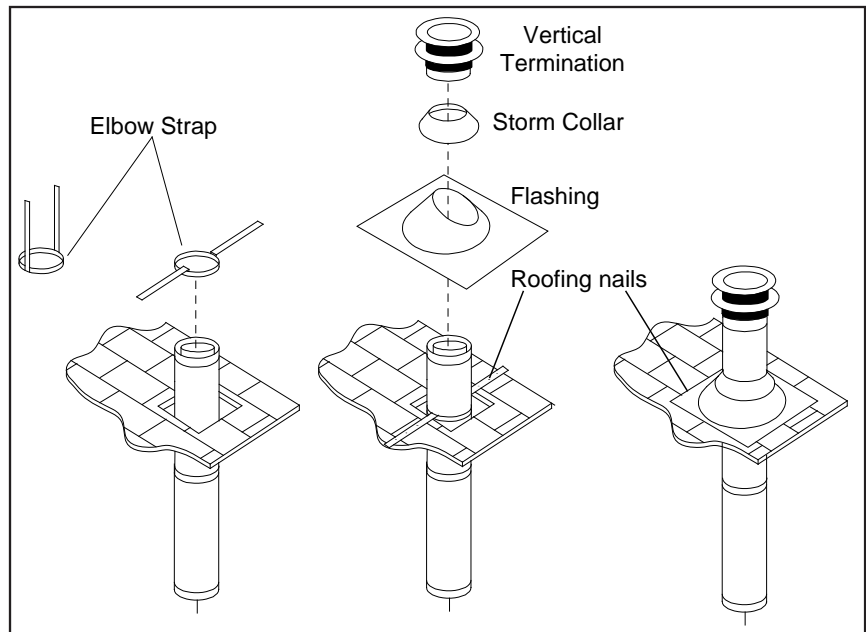
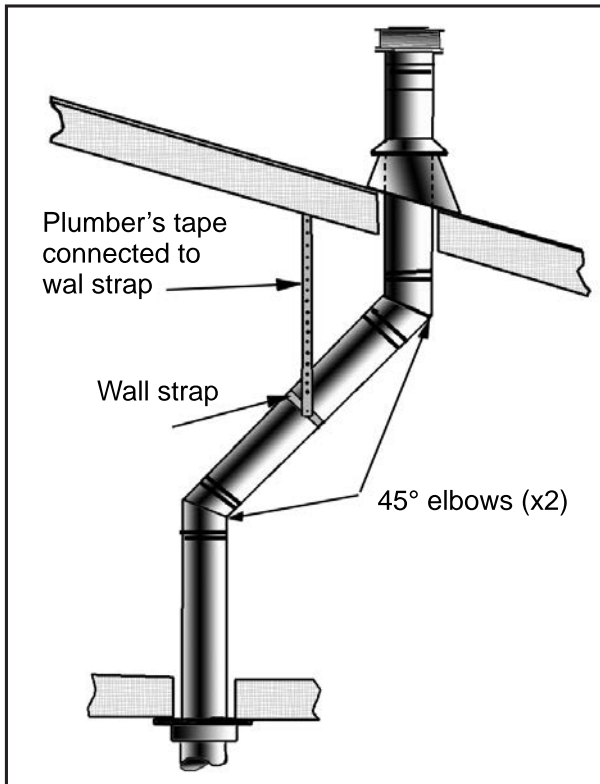
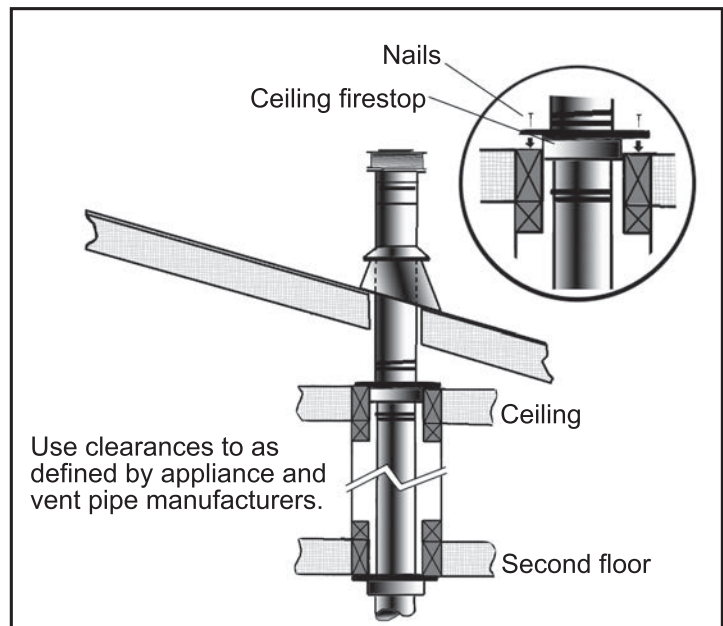

Figure 53: Vertical Vent Termination
Figure 55: Use of Wall Straps.
Figure 56: Multi-Story Vent Pipe Installation
- Step 3.** To install the Round Support Box/Wall Thimble in a flat ceiling, cut a **10 " (25.4 cm)** square hole in the ceiling, centered in the hole drilled in Step 2. Frame the hole as shown in Figure 53.
- Step 6.** Once the pipe sections have been joined, and run up through the hole in the roof, slip an elbow strap over the exposed sections, bend the support straps outwards, and push the elbow strap down to the roof level, as shown in Figure 53. Tighten the clamp around the pipe section. Use a level to make sure the pipe is truly vertical. With roofing nails, secure the support straps to the roof. Seal the nails holes heads with non-hardening mastic. Trim the excess length of the support straps that extend out beyond the edge of the flashing.
- Step 9.** Slip the storm collar over the pipe, and push it down to the top of the roof flashing as shown in Figure 53. Use the non-hardening sealant around the joint between the pipe and the storm collar.
- (1) If an offset is necessary in the attic to avoid obstructions, it is important to support the vent pipe every **3' (914 mm)**, to avoid excessive stress on the elbows, and possible separation. Wall straps are available for this purpose (see Figure 55).
- (2) When ever possible, use 45° degree elbows instead of 90° degree elbows. The 45° degree elbow offers less restriction to the flow of flue gases and intake air.
- (3) For multi story installations; a ceiling firestop is required at the second floor, and any subsequent floors (see Figure 56). The opening should be framed to **10" (254 mm) x 10" (254 mm)** inside dimensions, in the same manner as shown in Figure 53.